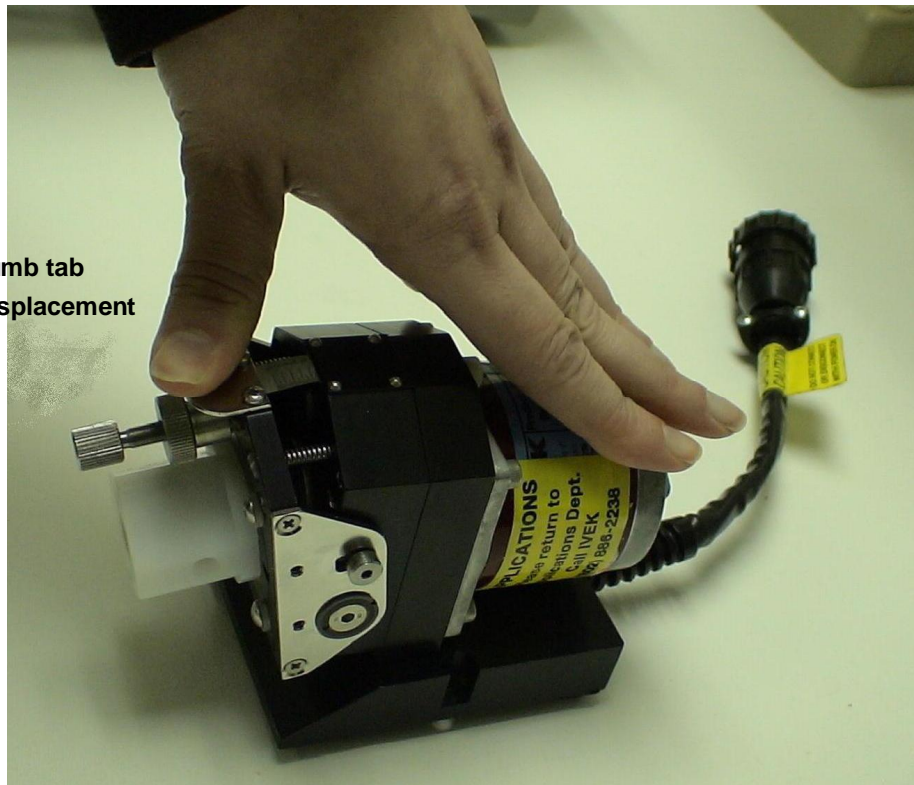

Figure 5.3
1. Press down on the thumb tab (4) (see Figure 5.3) to tilt the displacement adjustment mechanism (1) into its maximum displacement position.
2. While holding displacement adjustment mechanism (1) in its maximum displacement position, run the system in Prime mode.